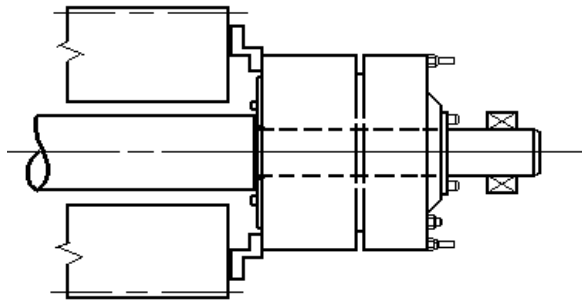

Figure 3
2.1.3 Figure 3 represents the quill mounting arrangement. The CH is pressed onto the quill shaft with a pinion adapter connected to the drive ring. Typically the quill will pass through the CH and be bearing supported at the end.
The following installation procedures should be followed for CH elements requiring that the hub be mounted prior to the cylinder, as in quill mounted applications (Figure 3). For elements requiring that the cylinder be mounted first, proceed to 2.4.3.